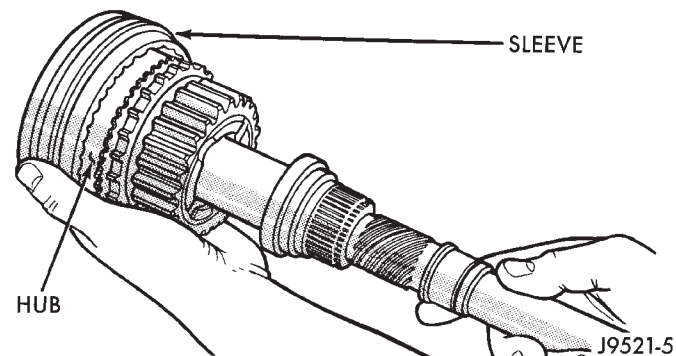

Fig. 14 Removing Sleeve From Hub
(23) Remove sleeve from hub (Fig. 14).